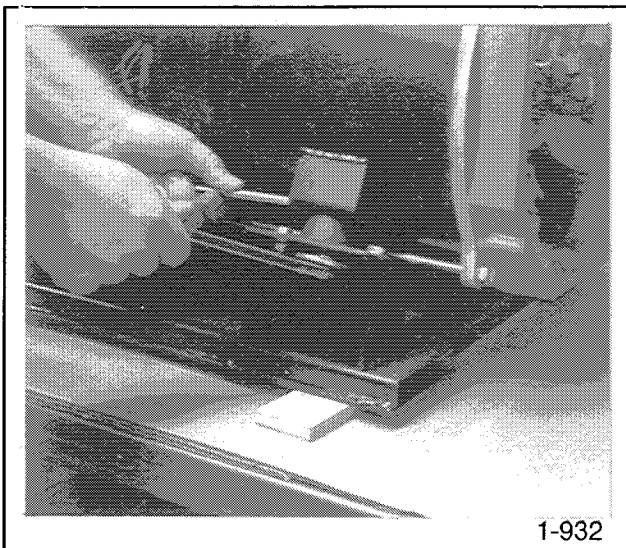

Figure 8-7. Removing the Vibromounts
15. Remove the bolts from the two generator vibromounts using a 1/2-inch wrench. See Figure 8-7.